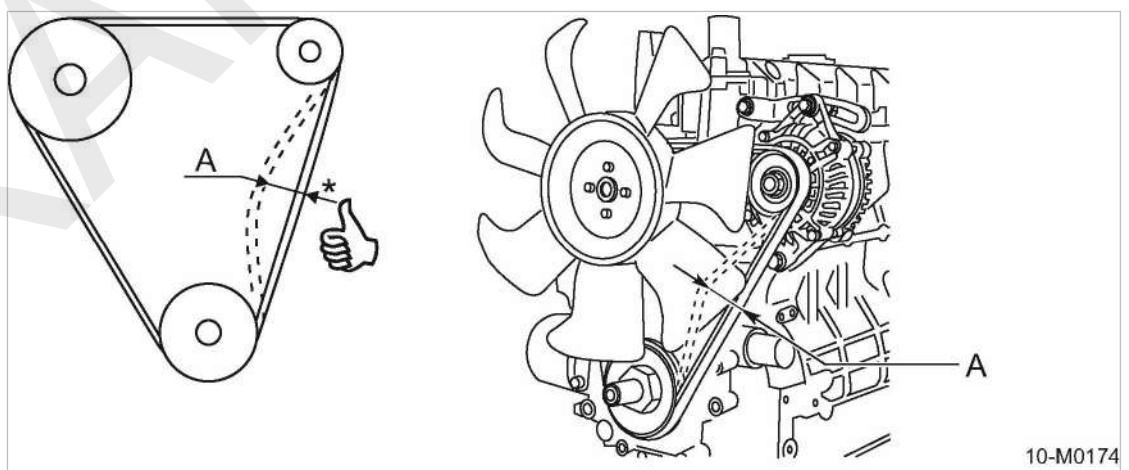

Fig. 49 Manually checking the belt tension
1. Check belt tension by hand (see Fig. 49).
6. Check the belt tension (see Fig. 49).